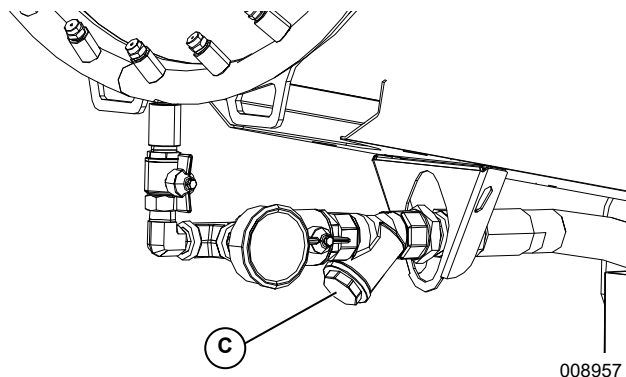

Figure 4-5. Nozzle Water Filters
1. See **Figure 4-5**. Unscrew and remove water inlet (B).